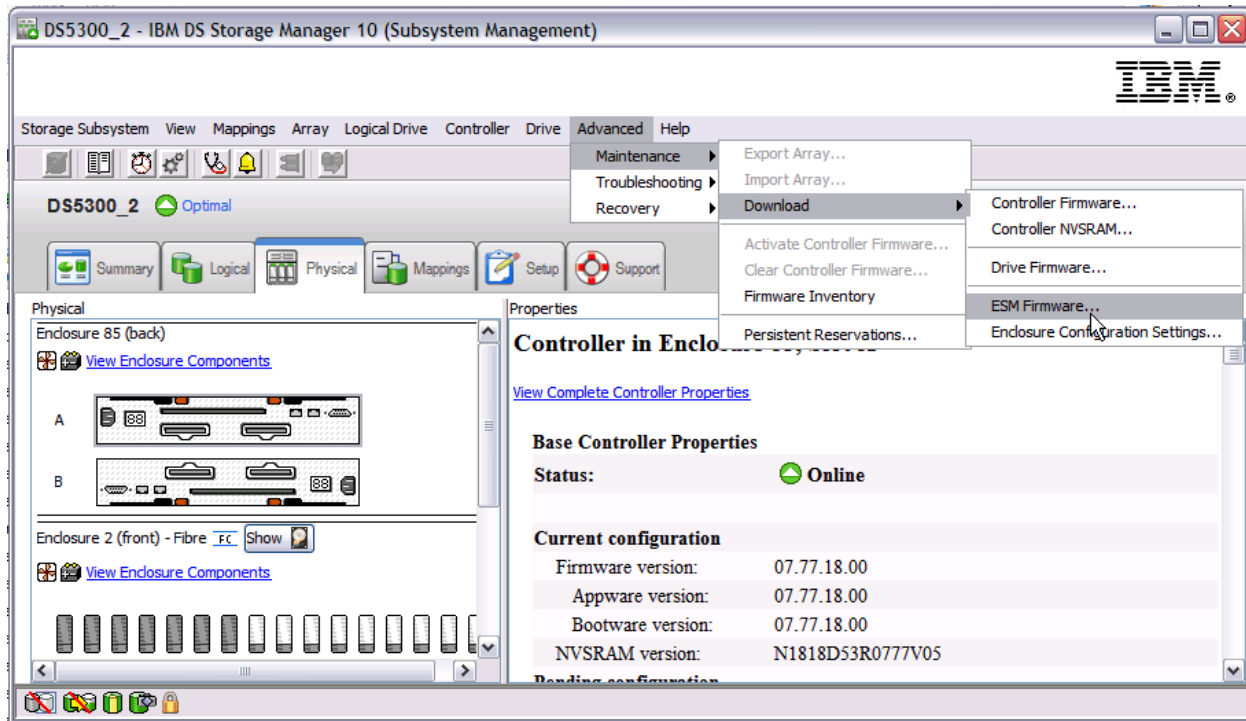

Figure 5-16 Download ESM firmware
1. From the Subsystem Management window, select **Advanced** → **Maintenance** → **Download** → **ESM Firmware**, as shown in Figure 5-16.